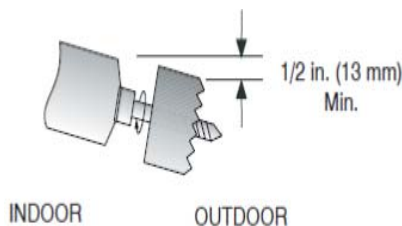

Fig. 14 — Drill holes
- b. Drill the pipe hole. The outside pipe hole is 1/2 in. (13 mm) lower than the inside pipe hole, therefore it slants slightly downward (see Fig. 14).